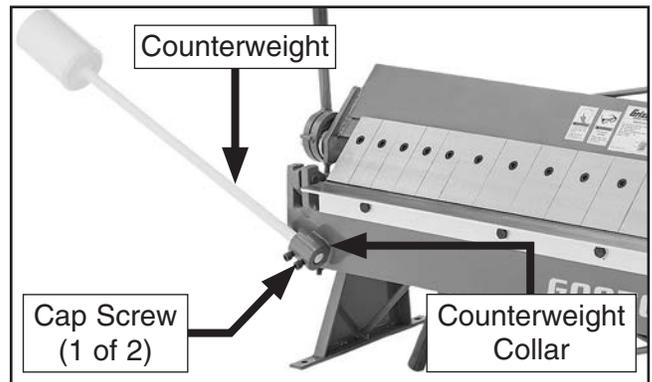

Figure 17. Location of bending leaf counterweight components.
1. Loosen (2) cap screws on bending leaf counterweight collar (see **Figure 17**).
2. Have an additional person insert counterweight into counterweight collar, then tighten (2) cap screws to secure.
- For maximum weight leverage, position narrow end of counterweight flush with bottom of counterweight collar (see **Figure 17**).